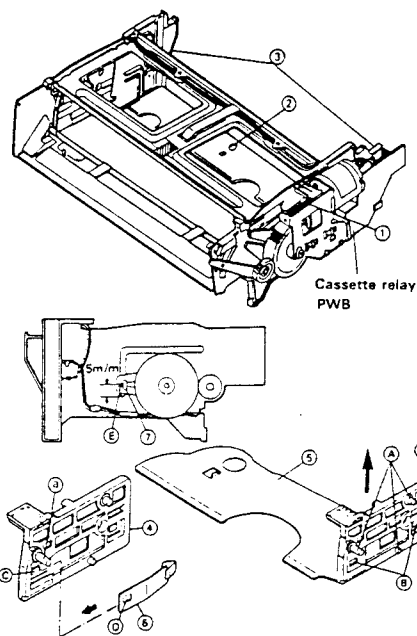

Figure 1-4.
• Disassembly (Fig. 1-4)
1. Turn the worm gear ① by hand counterclockwise until the cassette slider assembly ② reaches the bottom position.
2. Slightly extend the right and left frames ③ to allow the tabs ④ of the cassette slider assembly ② to go out of the holes of the right and left frames.
3. Pushing the tabs ③ of the slider holder (right) ④, pull the slider holder (right) out of the cassette slider ⑤.
4. Remove the lock release lever ⑥ from the slider holder (right).
• Reassembly (Fig. 1-4)
1. Put the lock release lever ⑥ to the slider holder (right) ④: check that the tab ③ of the slider holder (right) is surely engaged with the hole ⑤ of the lock release lever.
2. Move the lock release lever so that it is positioned inside the tab of the cassette slider ⑤.
3. Extend the right and left frames and let the right and left tabs ④ of the cassette slider assembly be engaged with the grooves of the right and left frames.